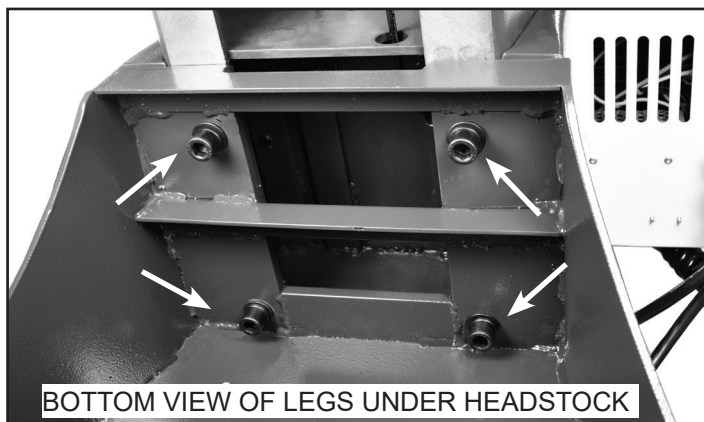

FIG. 6
4. Secure the lathe bed to the stand legs with the eight Washers (I, #F2), Spring Lock Washers (#F3) and Hex Head Bolts (#F4). Figure 6 shows 4 bolts securing the legs to the headstock end of the lathe.